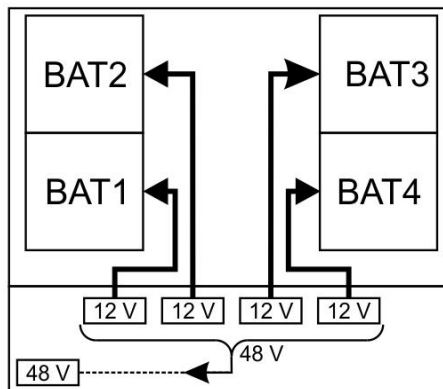

Fig. 5. Battery connection.
3. Connect the batteries with the battery wires paying attention to the polarity (+ BAT red, -BAT black) and the numbering of wires. The connections between the batteries were factory made, as shown in Fig. 5.